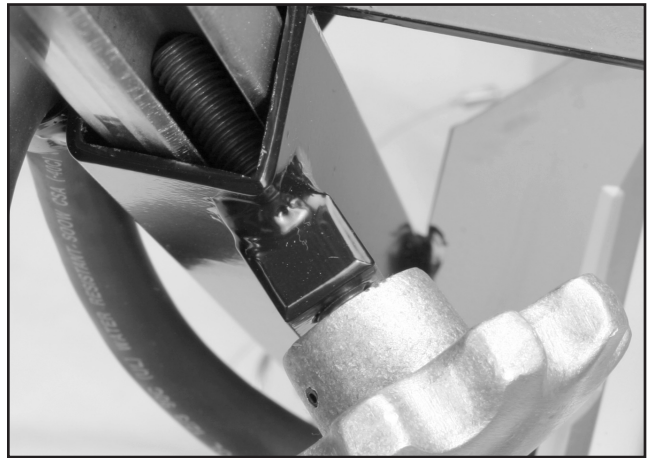

FIGURE 14
3) Loosen the threaded handle knobs and extend the operator handle out until it stops against the threaded studs. Retighten the knobs. FIGURE 14.